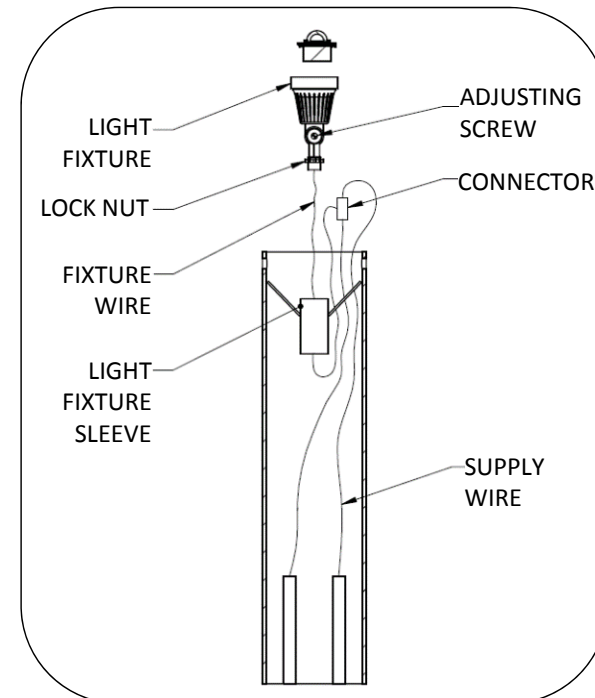

FIG.1 - MODIFYING LOW-VOLTAGE LIGHTING
- **COMPATIBILITY:** The solar retrofit top can replace the top casting on any 6" Annapolis bollard, except embedded bollards filled with concrete. Annapolis bollards with low-voltage lighting must be modified to accept the retrofit top, see Fig. 1.
3. Cut the fixture wire and seal the end of the wire on the supply side with a suitable insulating product, see Fig. 1.